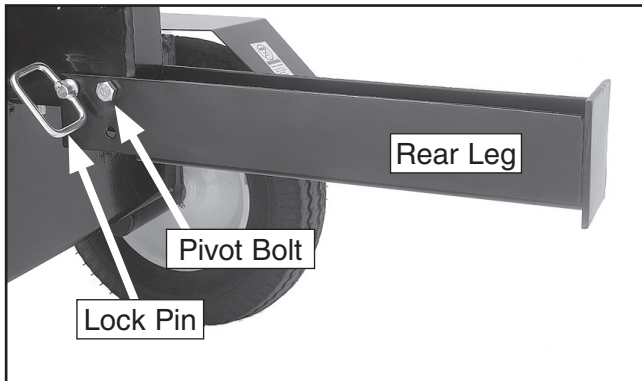

Figure 8. Rear leg installation.
8. Install the rear leg onto the frame with the M10-1.5 x 75 pivot bolt, flat washer, and lock nut as shown in **Figure 8**.
9. Raise the leg and lock it in place with the lock pin and 2 x 15mm cotter pin as shown in **Figure 8**.